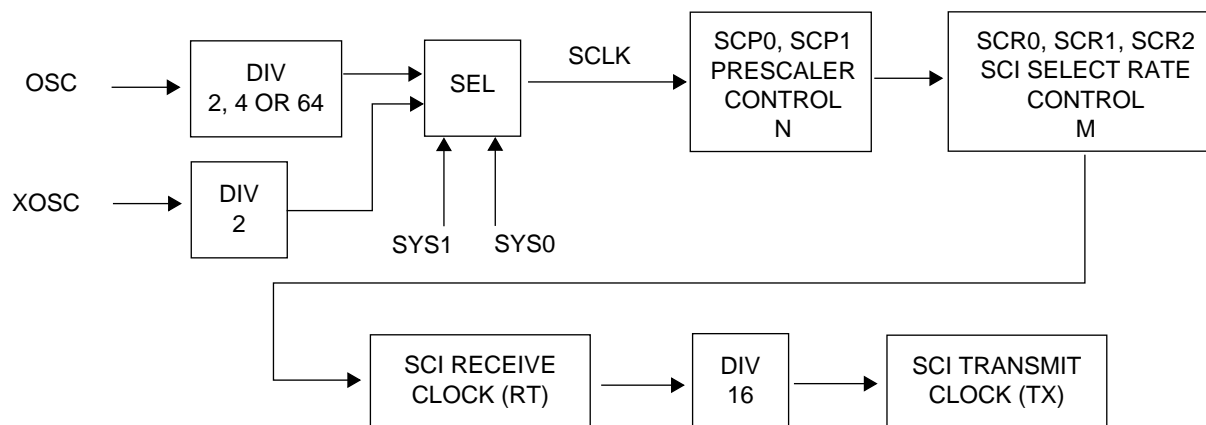

Figure 11-7. Rate Generator Division
The diagram of **Figure 11-7** and **Table 11-1** and **Table 11-2** illustrate the divided chain used to obtain the baud rate clock (transmit clock). Note that there is a fixed rate divide-by-16 between the receive clock (RT) and the transmit clock (Tx). The actual divider chain is controlled by the combined SCP0-SCP1 and SCR0-SCR2 bits in the baud rate register as illustrated. All divided frequencies shown in the first table represent the final transmit clock (the actual baud rate) resulting from the internal processor clock division shown in the "divide-by" column only
* This clock is the system clock (SCLK) shown in Figure 11-7.